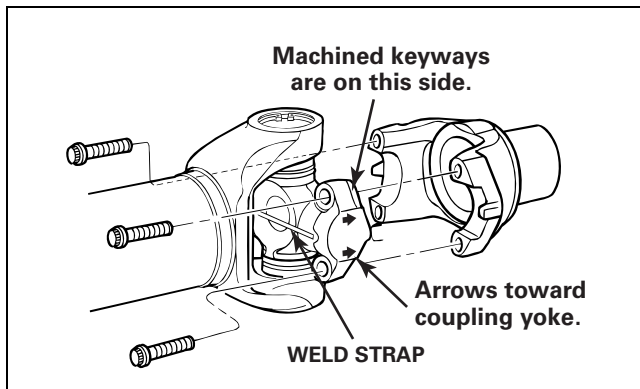

Figure 4.41
1. Before you install the capscrews, check that the universal joint is fully seated in the end yoke. The arrows on the wing bushing should point toward the coupling yoke. Figure 4.41.